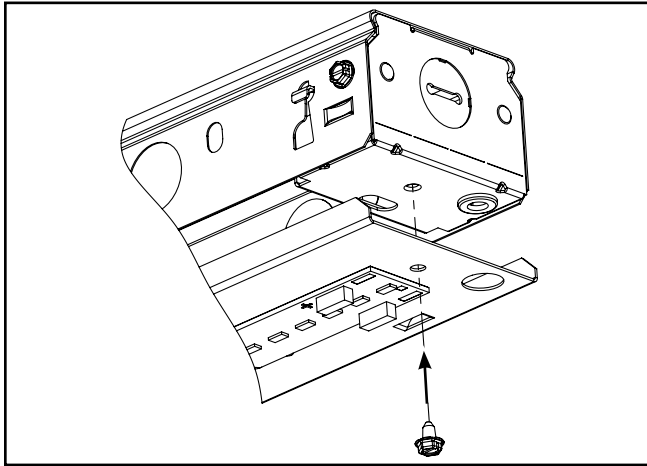

Figure 1.
3. Install channel cover with screws provided (Figure 1).